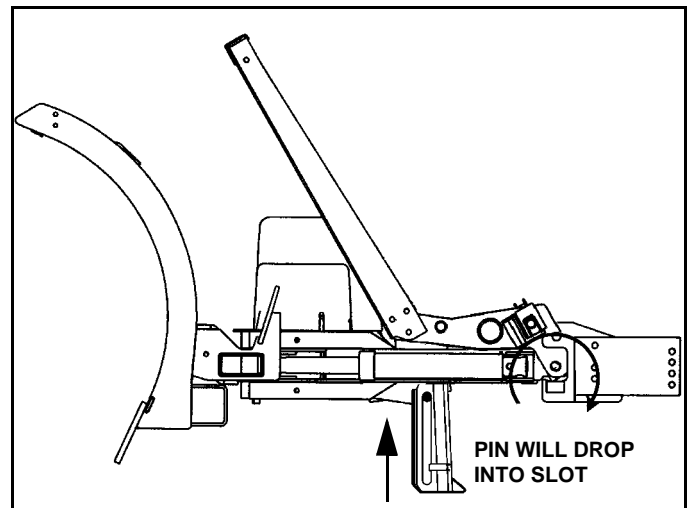

Figure 1-13
3. Rotate light/lift bar into position by turning on down pressure and pressing the lower button. (See Figure 1-13).